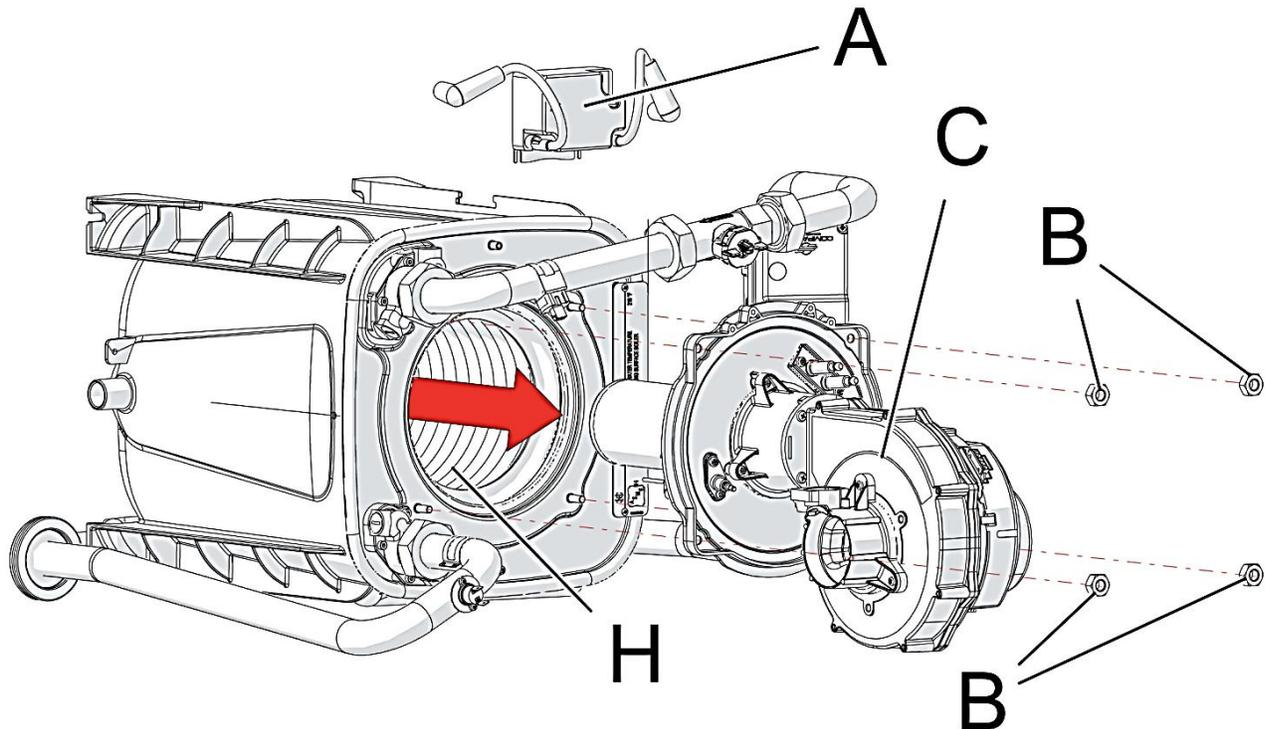

Figure 10-6: Removing the Fan and Burner Assembly
10. Unscrew the four nuts “B” in Figure 10-6;
11. Remove the entire fan and burner assembly, detail “C”, as shown in Figure 10-6
12. Use a cylindrical brush with plastic bristles to clean the inside of the combustion chamber, item “H” per Figure 10-6